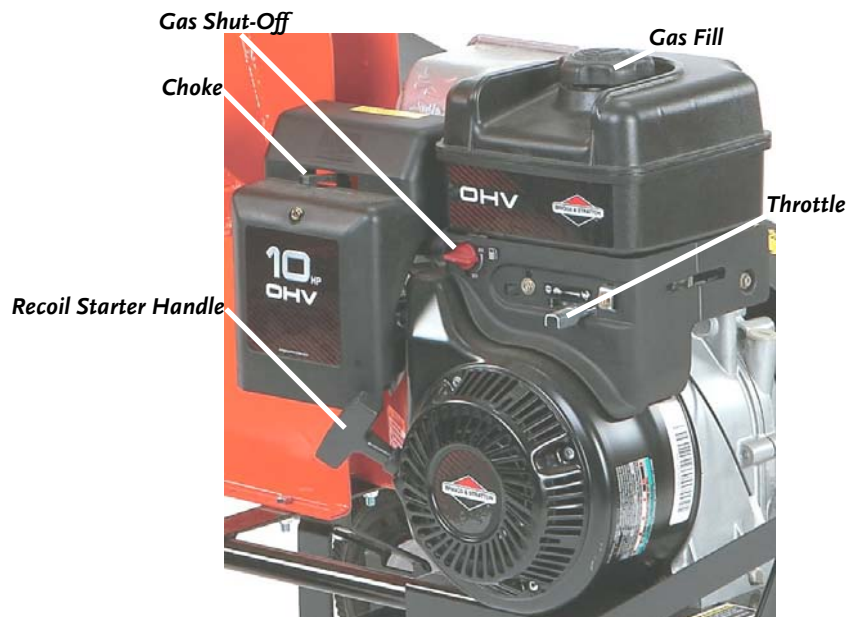

Figure 3
3. Turn the Gas Shut-Off valve to the OPEN position (*Figure 3*).
1. When starting a cold engine; push the Choke Control lever to the right (CHOKE) and the Throttle Control lever to the far right (**Figure 3** on page 17).
3. After the engine starts, slowly push the Choke Control lever (**Figure 3** on page 17) to the left (RUN) position. Wait until the engine runs smoothly before each Choke adjustment. For best engine performance, it is recommended that the engine be operated with the Throttle in the fast (Rabbit) position (**Figure 3** on page 17).
4. To stop the engine, move the Throttle to the slow (Turtle) position allowing the engine to idle, then move the lever to STOP (Stop Sign) position (**Figure 3** on page 17).